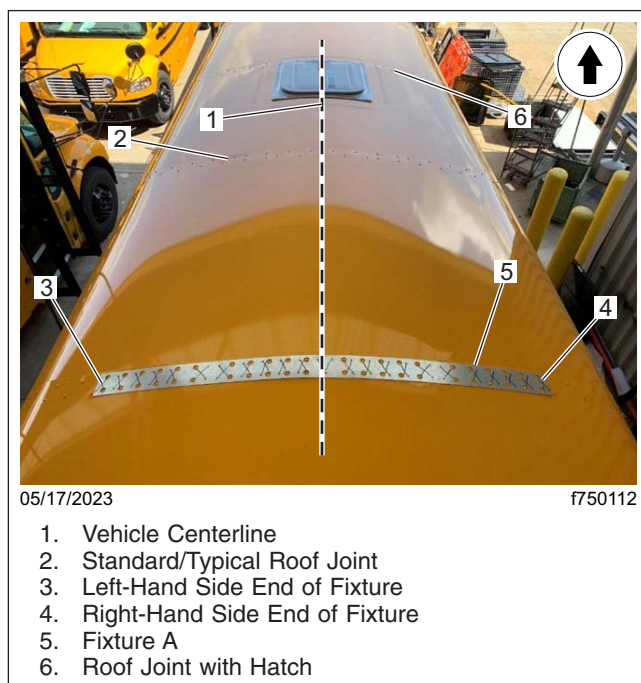

Fig. 8, Standard Joint Repair
11. To repair the standard roof joint, place the fixture A over the center rivet of the roof joint on the vehicle, as shown in Fig. 8.